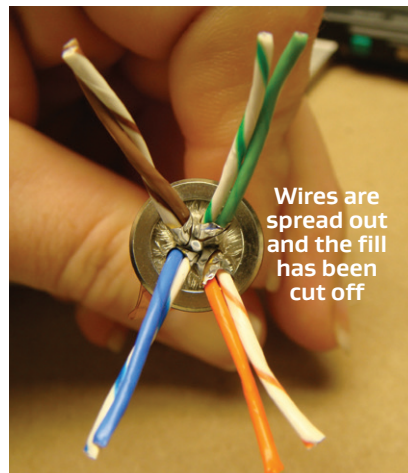

Figure 63: Spreading the wires
12. Spread out the wires around the cable and cut off the white filler as short as possible (Figure 63).